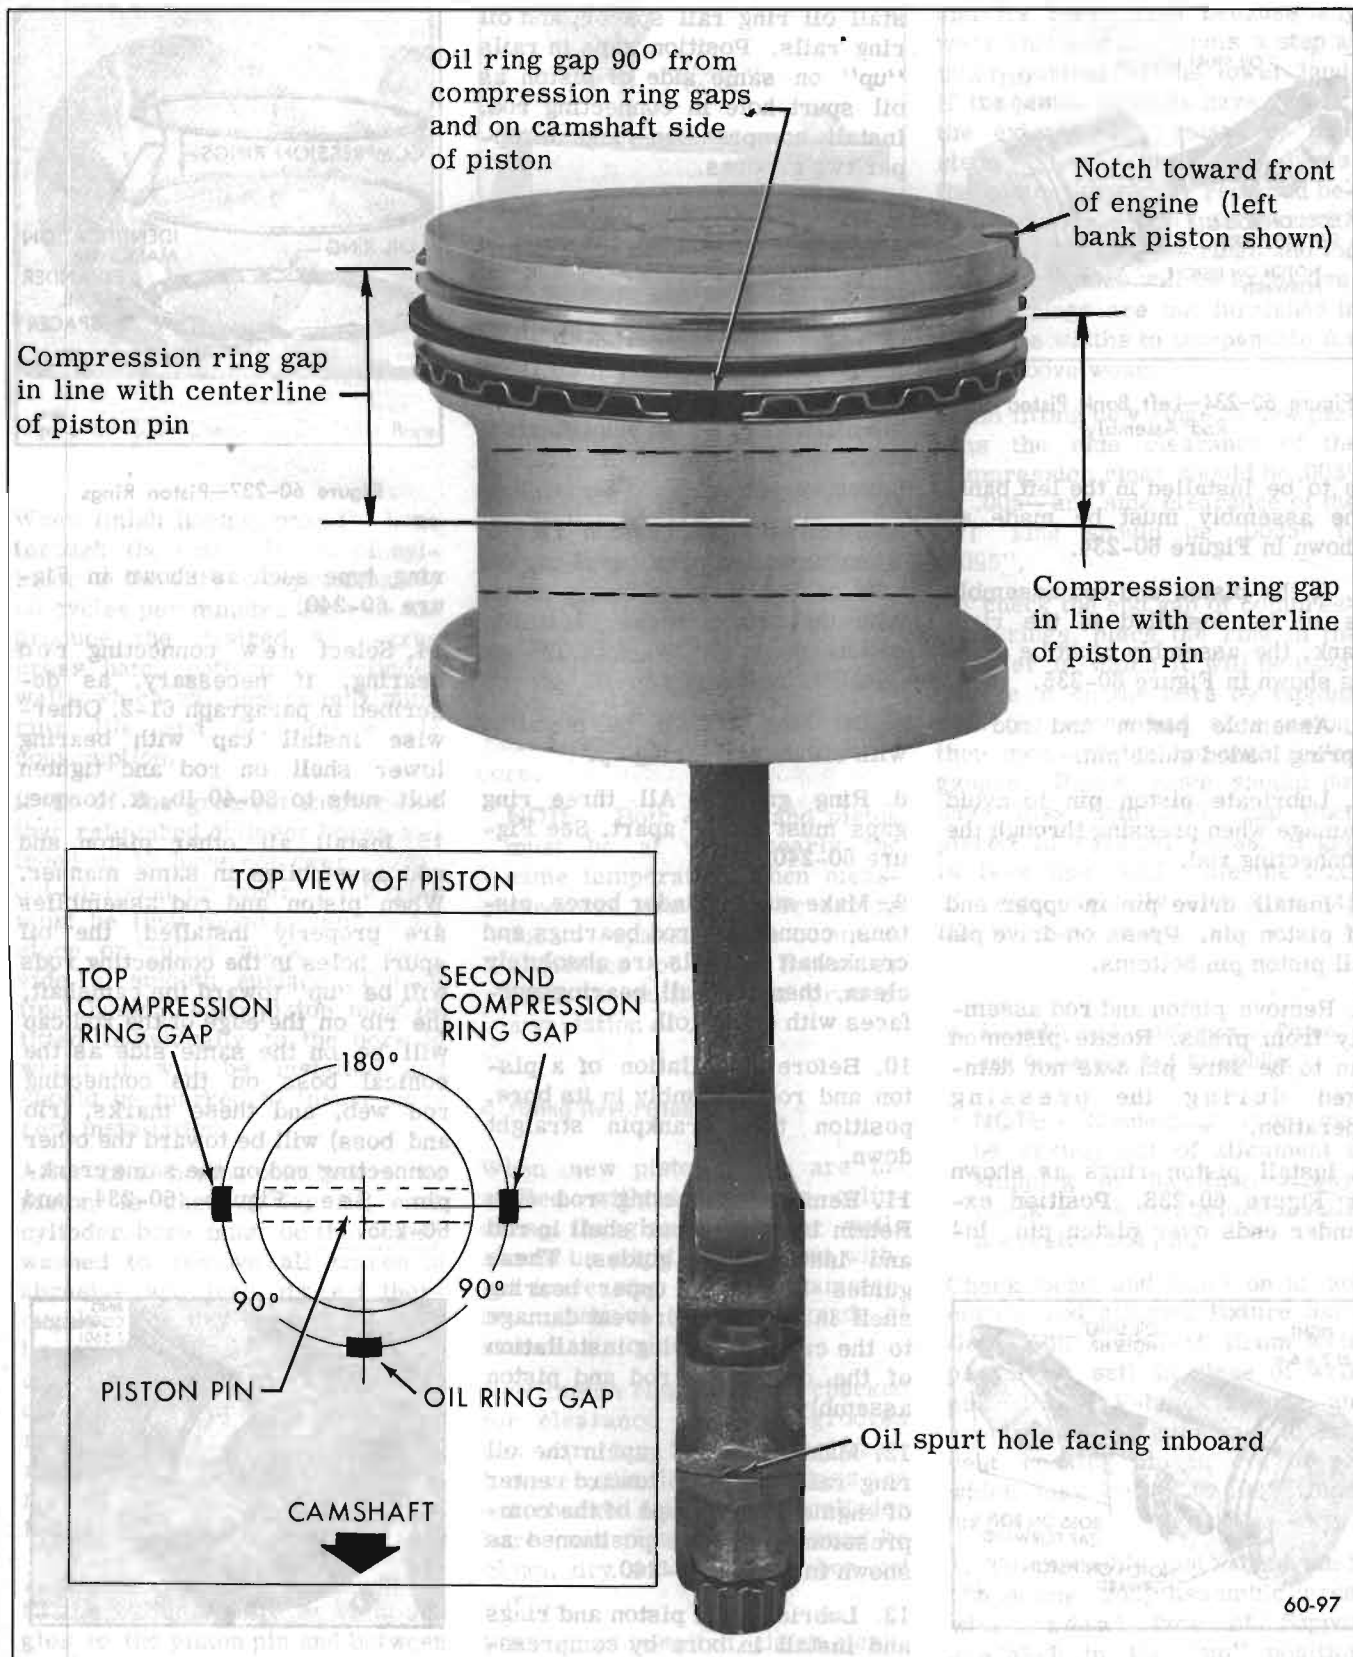

Figure 60-240—Piston Ring Gap Positioning
d. Ring gaps - All three ring gaps must be 90° apart. See Figure 60-240.
12. Make sure the gap in the oil ring rails is "up" toward center of engine and the gaps of the compression rings are positioned as shown in Figure 60-240.
ring type such as shown in Figure 60-240.